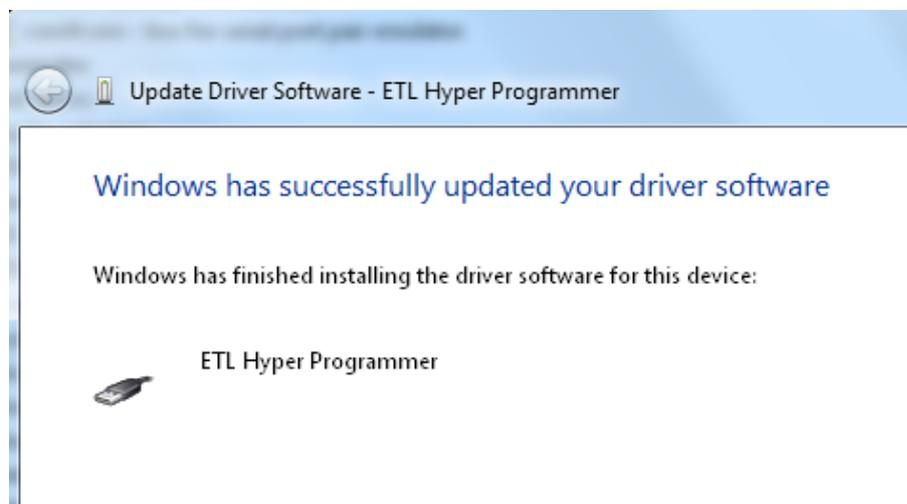

Figure 10. The "ETL Hyper Programmer" device successful installation
- Finally, you will see the driver installation confirmation for the second device. (Figure 10).